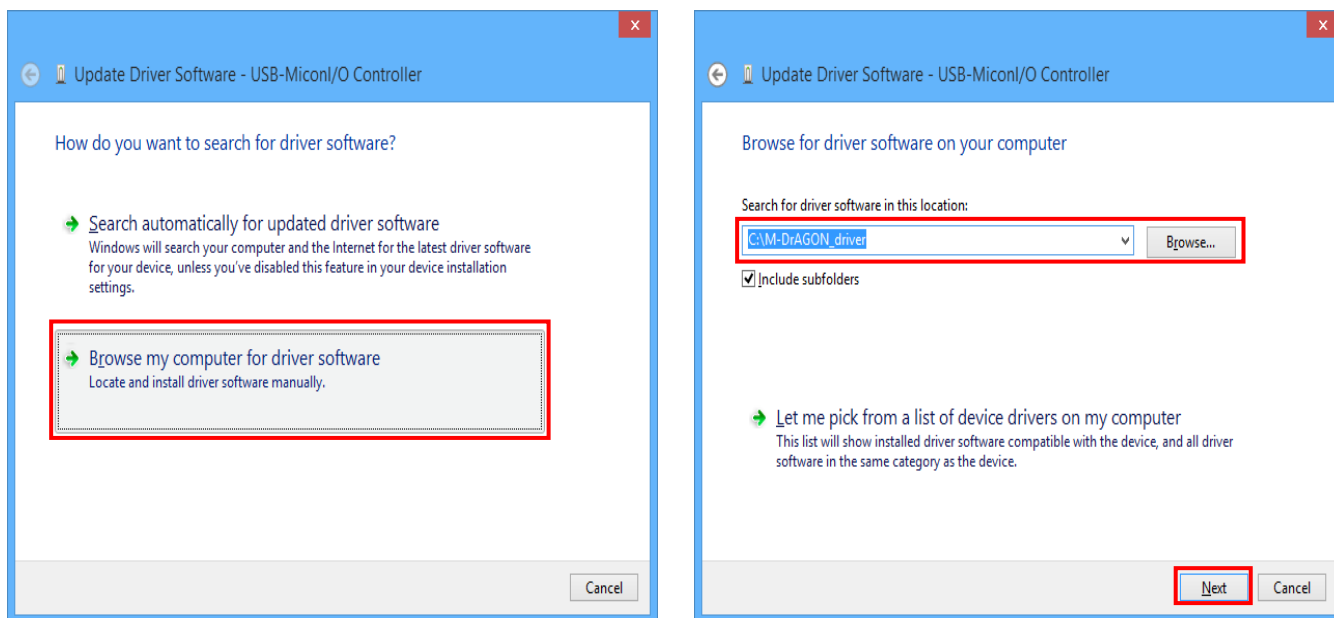

Figure 9. USB-MiconI/ O Controller-1
- (7) Select "Browse my computer for Driver software" option as the left in figure 9.
- (8) Select "**M-DrAGON\_driver.inf**" located in the "M-DrAGON\_driver" folder and click "Next", then the installation is started.